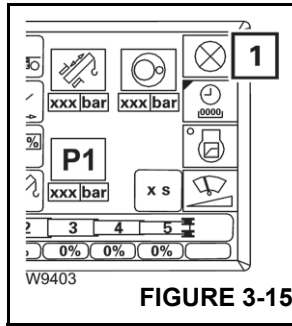

FIGURE 3-15
1. If necessary, in the ECOS display, open the main menu and press the F4 button (1) (Figure 3-14). The Settings submenu (Figure 3-15) opens.
2. Press the F5 button (1) (Figure 3-15).